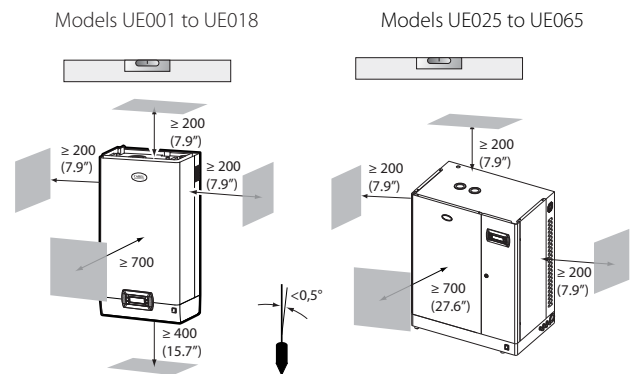

Fig. 1.c
- make sure the humidifier is level, allowing the minimum clearances (see Fig. 1.d) for maintenance operations.